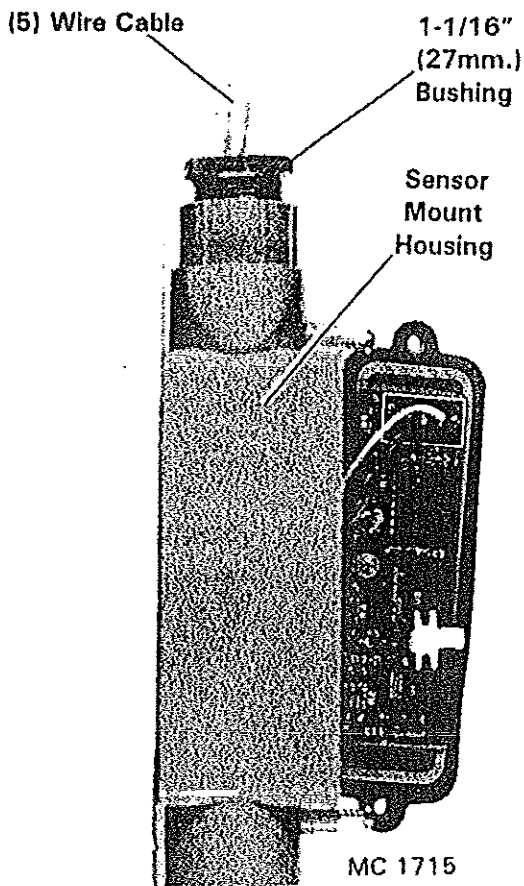

Figure 41 - Weather Sensor
A. Weather Sensor is supplied with the Printer but must be installed by customer when dryer installation is completed, see Figure 41.